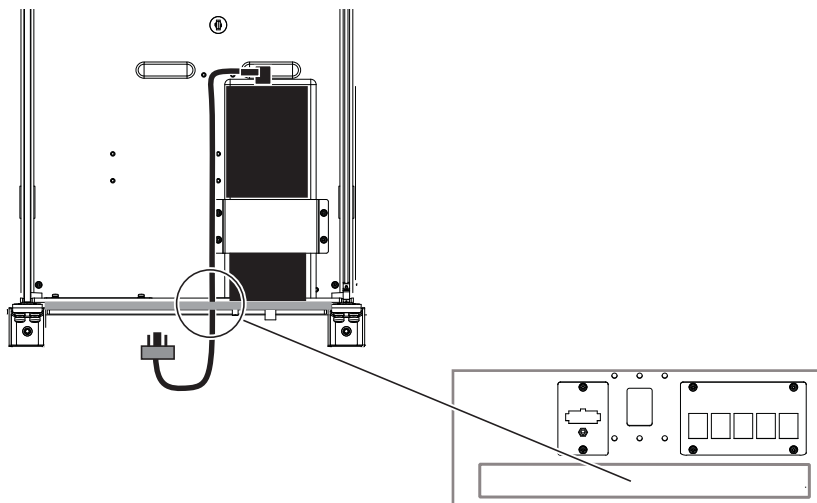

Figure 12. Power cable terminal through the Back Tie Plate
- 1 If you haven't already, feed the DC power cable from each PSU out through the opening in the Back Tie Plate as shown in Figure 12.